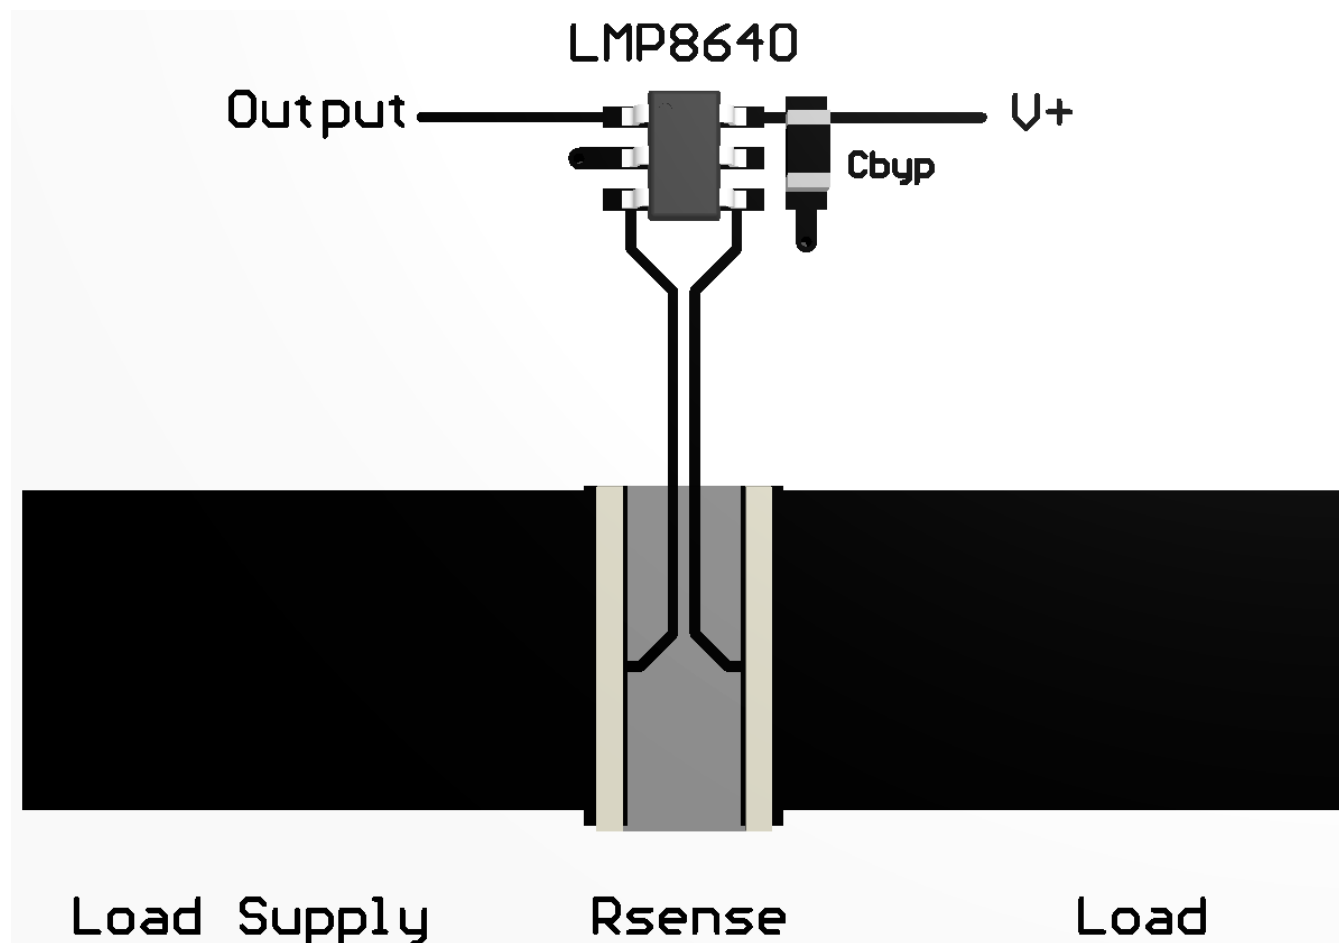

Figure 29. Layout Example - Kelvin Connection to a Two-Terminal Resistor
- Use 4-wire (Kelvin) connections to the sense resistor. Connect to the resistor at a point that is not within a direct high-current path (See Figure 29).